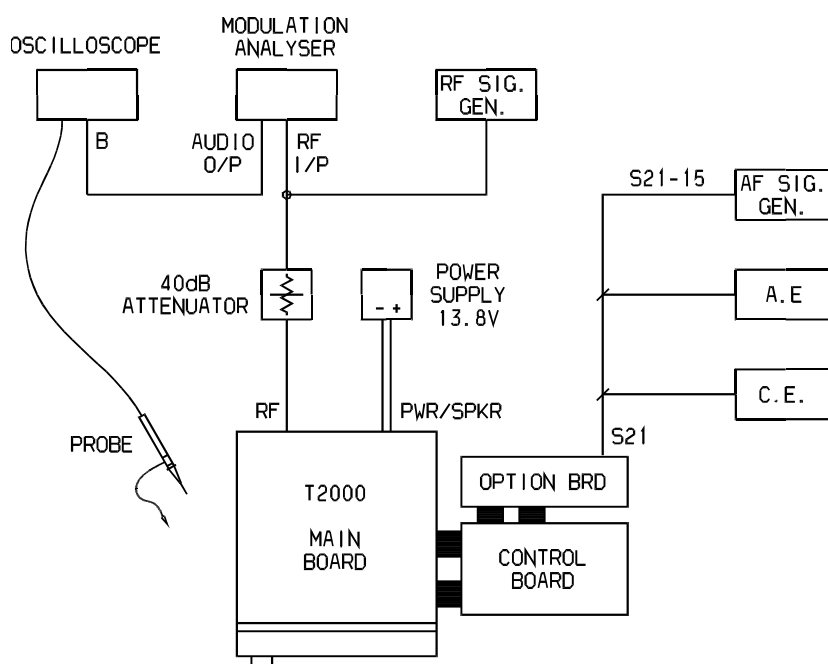

Figure 8.12.2 Test Equipment Set-Up
- lead to connect radio to CE and AE, if required (refer to Figure 8.12.2 & Figure 8.12.3)